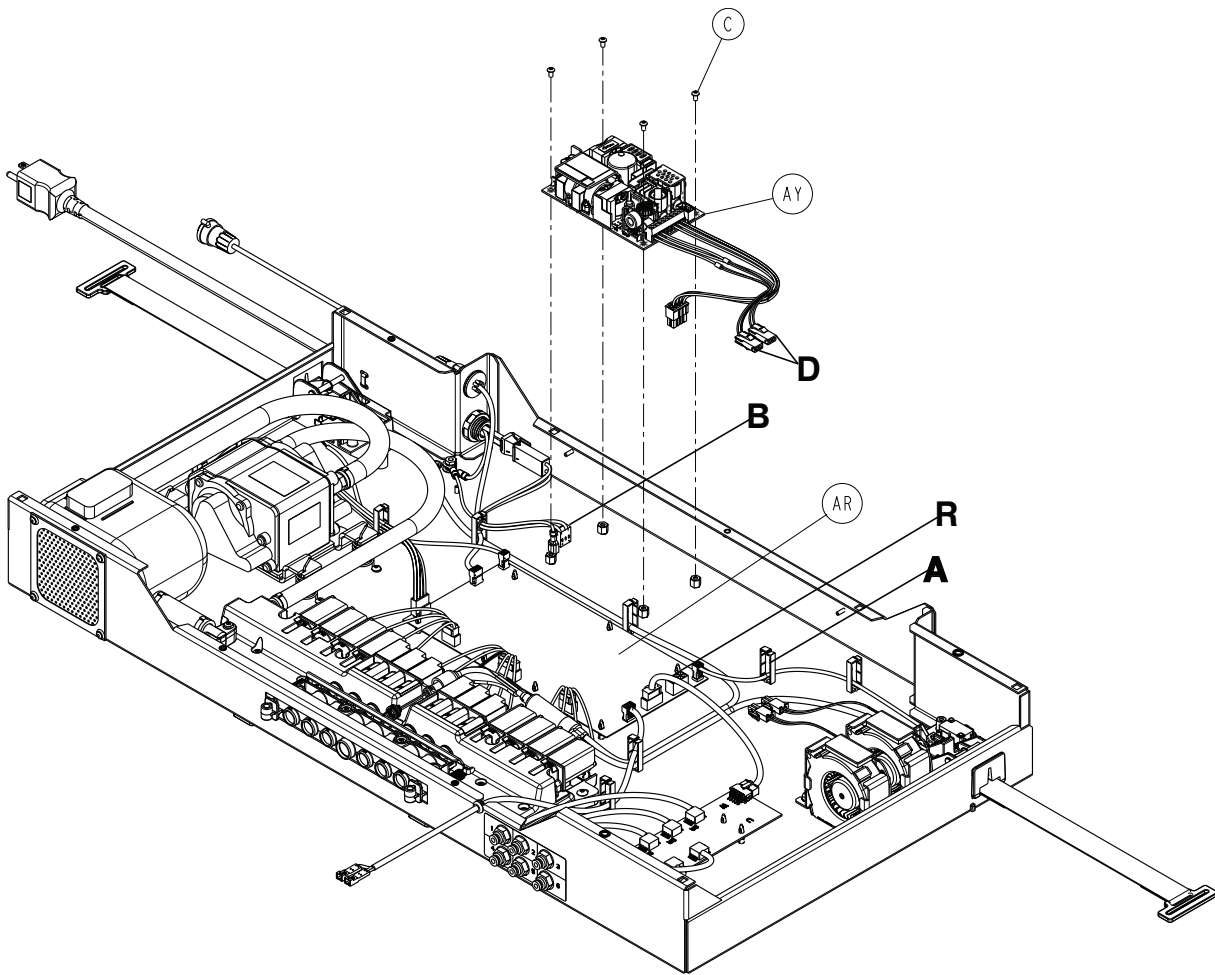

Figure 13 – Power supply
3. Remove the wires for the fans and DC power from the wire clip (A).
4. Disconnect the DC power connector from the main board (AR) (connector R) (Figure 13).
5. Disconnect the AC power connector (B) from the power supply (Figure 13).
6. Disconnect the two foot box fans (D).
8. Using a T10 Torx driver, remove the four screws (C) that secure the power supply (AY) to the foot box (Figure 13). Save the screws.
9. Remove and discard the power supply (AY) (Figure 13).